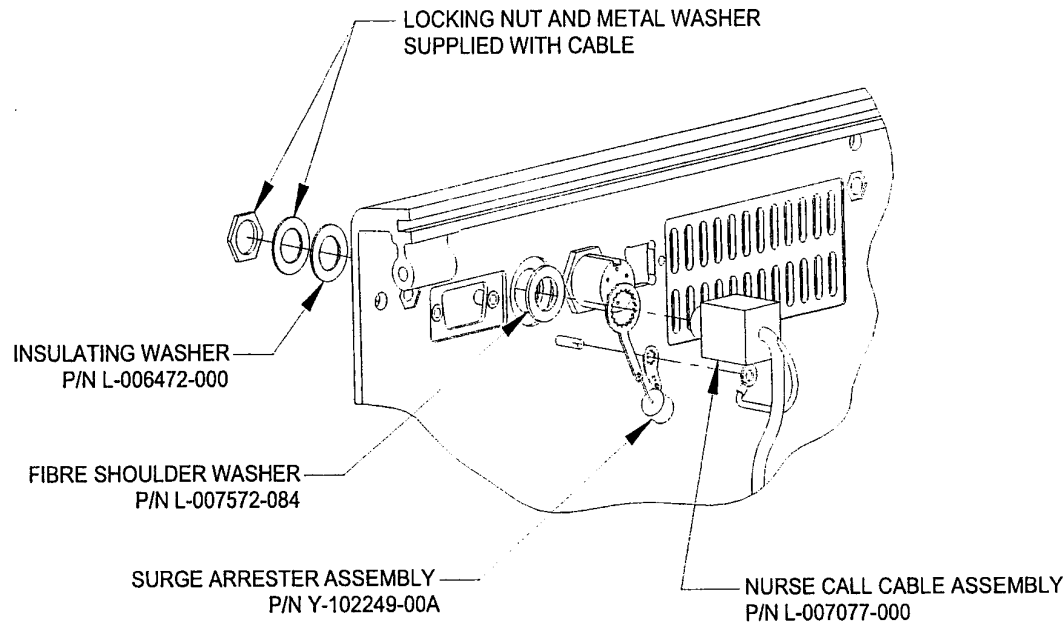

FIGURE 4-38.
1. Remove the locking nut and the washer from the nurse call phone jack, if present. Install the 3/8-in solder lug terminal of the surge arrester assembly (P/N Y-102249-00A) over the phone jack. See Figure 4-38.
2. Install a fibre shoulder washer (P/N L-007572-084) on the phone jack stem with the shoulder up. Insert the phone jack into the nurse call hole from the inside of the rear extrusion. See Figure 4-38.